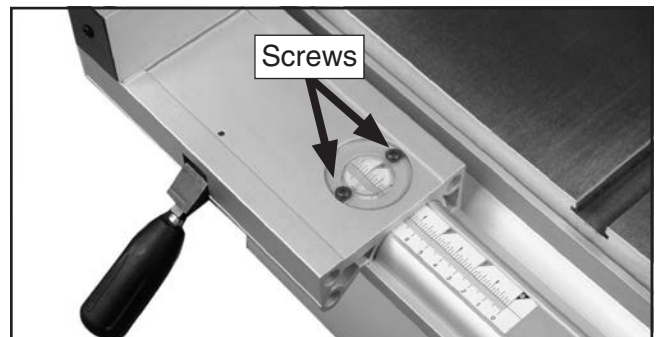

Figure 58. Example of fence scale window and screws.
4. If reading on scale is not the same as width of cut workpiece, loosen two screws on magnifying window (see **Figure 58**) and adjust it to match width of the cut workpiece.